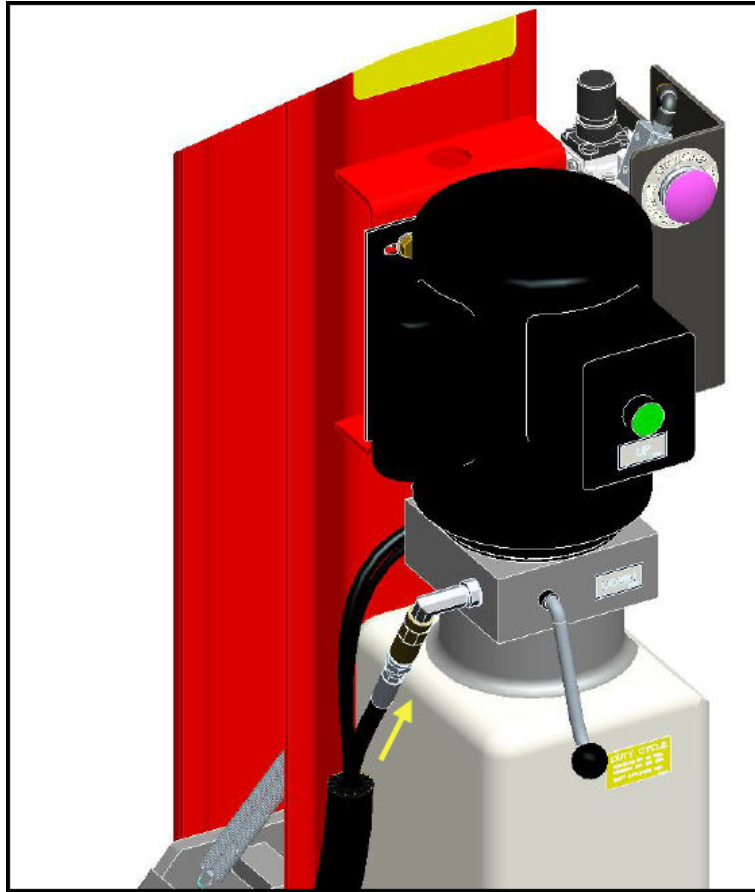

Figure 21. Powerpack Install
2. Install Flow Control #6-1691 into power pack. See **Figure 21**.